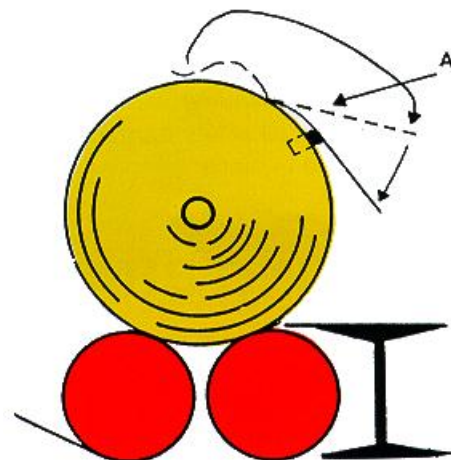

Figure 16
5. Take hold of new tail "A" and pull it down snug and flat against contact tape. Do this for each slit making sure each tail is snug and flat, then hand rub to ensure good bond. Figure 16.